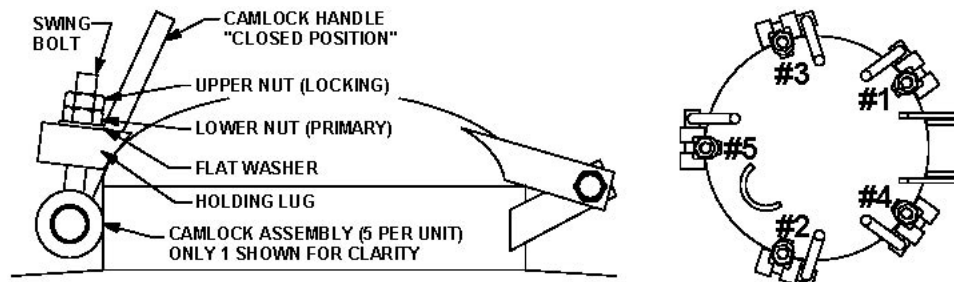

Figure 8.1 – Closure Assembly
- d) Following the numbered sequence shown in Figure 8.1 tighten each bolt in three steps.